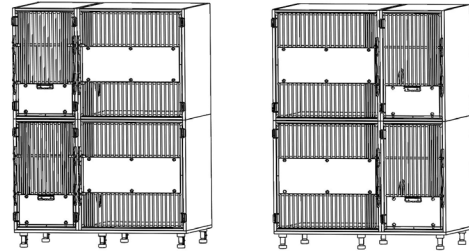

FIGURE 2.28 - Align/Connect Units
STEP 1: Follow the first and second row instructions to assemble the next Suite configuration to be attached to the first. See FIGURE 2.28